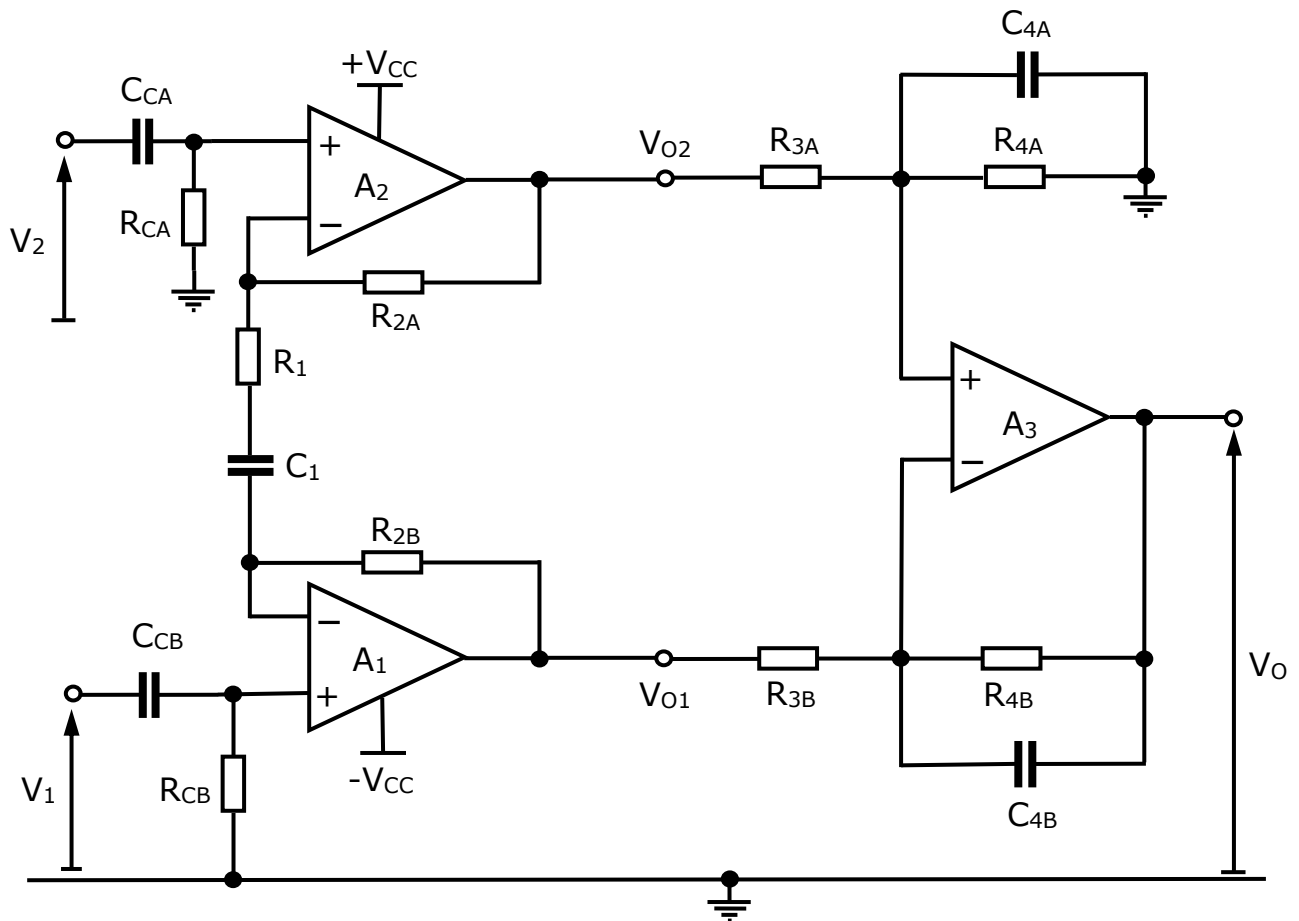

Fig. 2 Schematic Diagram of Initial ECG Amplifier
**Procedure:** Each student group is expected to come up with its own proposal for circuit design and to determine the component values required. Breadboards, components and test equipment will be provided in the laboratory. An op-amp based instrumentation amplifier, such as that shown in Fig.2, can be used as a starting point for the design. This circuit may then be adapted, modified, extended and refined as required to meet the performance specifications as given. Ideas for improvement of the basic circuit are welcome and encouraged (e.g. single supply operations of the amplifier). These may be obtained from the Internet and incorporated into your own design, provided that circuit structures and operation are shown to be fully understood and are explained in the technical report. Component values should also be systematically calculated with this goal in mind. The OP27 op-amp will be used for the project which is a relatively cost-effective, mid-range performance, op-amp with properties adequately suited to the requirements of the ECG amplifier. The manufacturer's data sheet for this op-amp is available on the EE5105 CANVAS website.